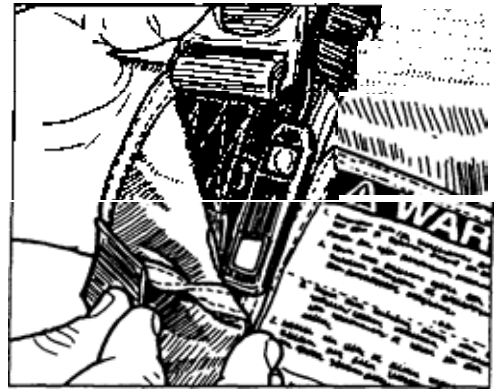
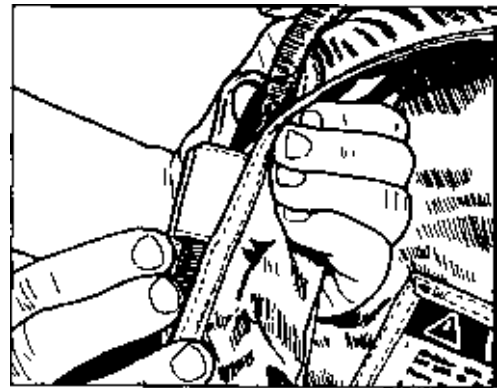

Figure 6
Figure 7
Step 10 Position the control unit with the cable end even with and next to the 3-Ring confluence wrap. Using the tacking strings provided, tacks only the bottom of the control unit to the backpad. Run the strings down and then up and tie the knot on the inside. Make sure that you run the strings to the inside of the 3-Ring housing channel and not through it. *Figure 6* Now close the 3-Ring cover using the tables on the outside of the cover. *Figure 7*